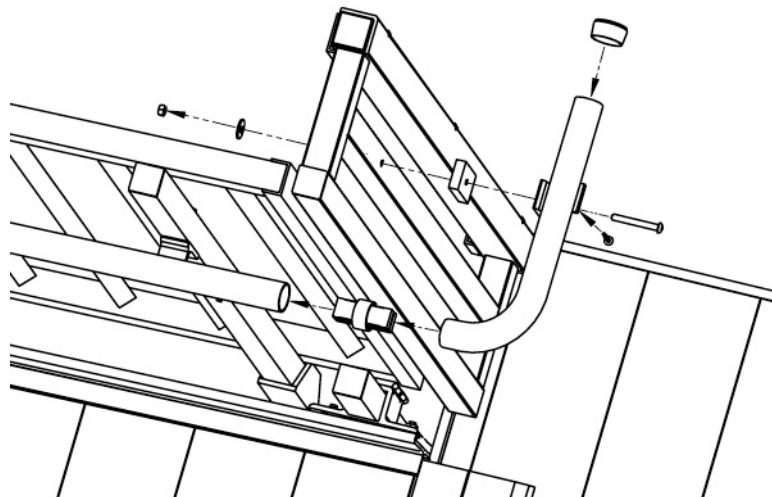

FIG. 36
- 8.5 At a turn platform at top of system on inside turn side (FIG. 36):